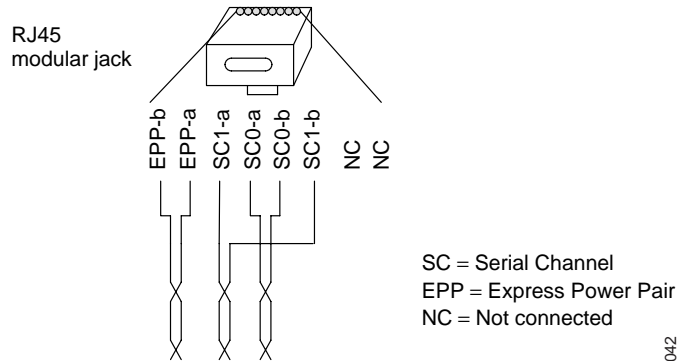

Fig. 40 Connector pinning of the data/power connector
Data lines of the same twisted pair may be interchanged. For instance SC0-a and SC0-b (see figure 40) may be interchanged. Also the EPP pair is insensitive for polarity reversal. Data **pairs** may not be interchanged.
1. Cut the base station cable to the correct length and connect the cable to a RJ45 modular jack (see figure 40). Do **not** plug the connector in the base station yet!